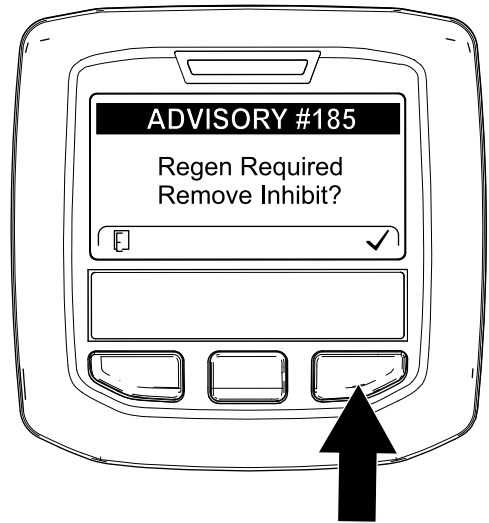

Figure 45
**Note:** If INHIBIT REGEN is set to ON, the InfoCenter displays ADVISORY #185 (Figure 45). Press button 3 to set inhibit regeneration setting to OFF and continue with the reset regeneration.